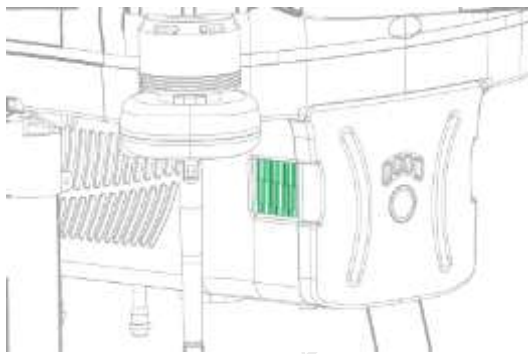

Figure 0-16
Step 2 When you hear “clicking” sound, the battery is put into the battery compartment completely, so the installation is completed, as shown in Figure 0-16.